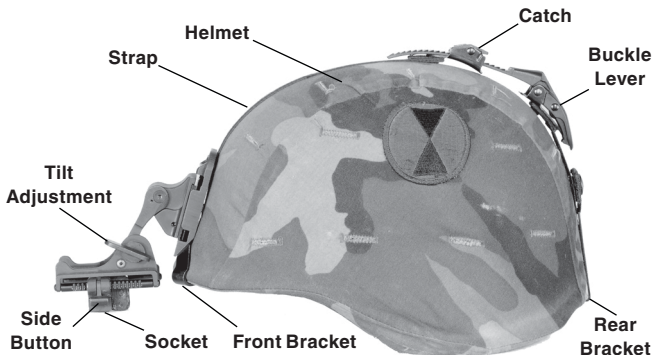

Figure 2-8. Helmet Mount Features
1. Remove mount assembly from the carrying case. Refer to Figure 2-8 for the helmet mount features.
2. With the catch in forward most position, place the strap over the top of the helmet, center and hook the rear bracket onto the rear of the helmet. Center the front bracket, hook in on the front of the helmet and hold it in place. (See Figure 2-8.)
To make it easier to align the goggle, eyecups and diopter eyepieces to the eyes, depress the socket-release button (See Figure 2-8) and slide the head mount socket all the way forward before attaching the goggles.
3. Align the PVS-7 's latch (Figure 2-1) to the head mount socket (See Figure 2-8). Press and hold down the latch lever while installing the goggle into the head mount socket. Release the latch when the goggle is fully engaged in the socket.
3. Place the PVS-7 in the socket of the helmet mount. (See Figure 2-8.) Set your eye relief by depressing the side buttons and carefully move the goggles fore or aft until the eyecups comfortably seal around the eyes. Readjust the helmet straps as required for vertical adjustment.